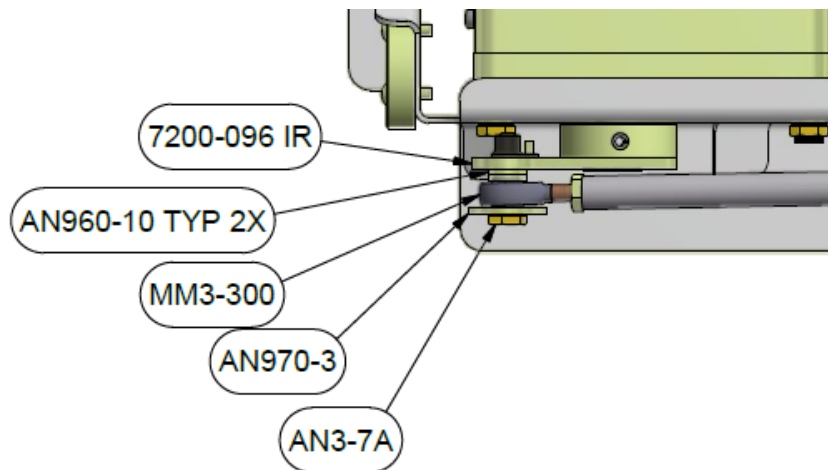
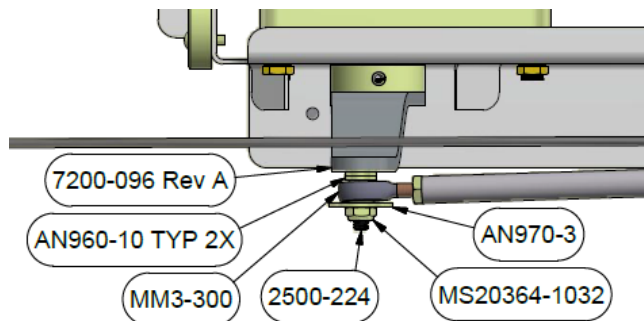

Figure 2-27
Figure 2-28
1.41. Attach the roll pushrod assembly to the roll servo arm as shown in Figure 2-27 if 7200-096 IR was used in step 1.26. If 7200-096 Rev A was used in step 1.26 attach as shown in Figure 2-28. Tighten the bolt to 20-25 in-lb.